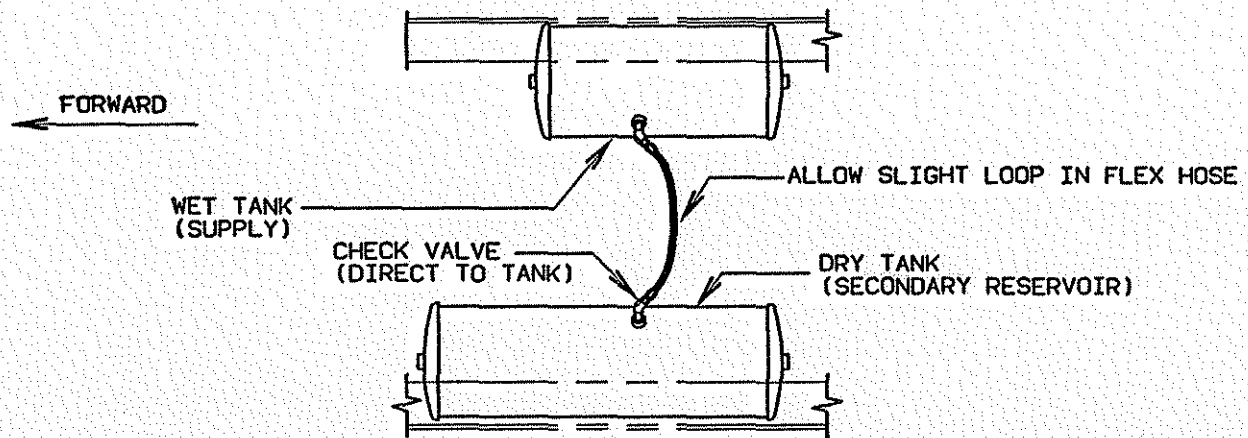

FIGURE 3
10.2.1 ROUTE INTER-TANK AIR LINES AS DIRECTLY AS POSSIBLE FROM WET (SUPPLY TANK) TO CHECK VALVE ON PRIMARY AND SECONDARY TANK. DO NOT ROUTE VIA CROSSMEMBER EXCEPT TO AVOID KING PIN INTERFERENCE. (SEE FIGURE 3) NO ELBOWS NOR OTHER FITTINGS MUST BE CONNECTED BETWEEN TANK AND CHECK VALVE.